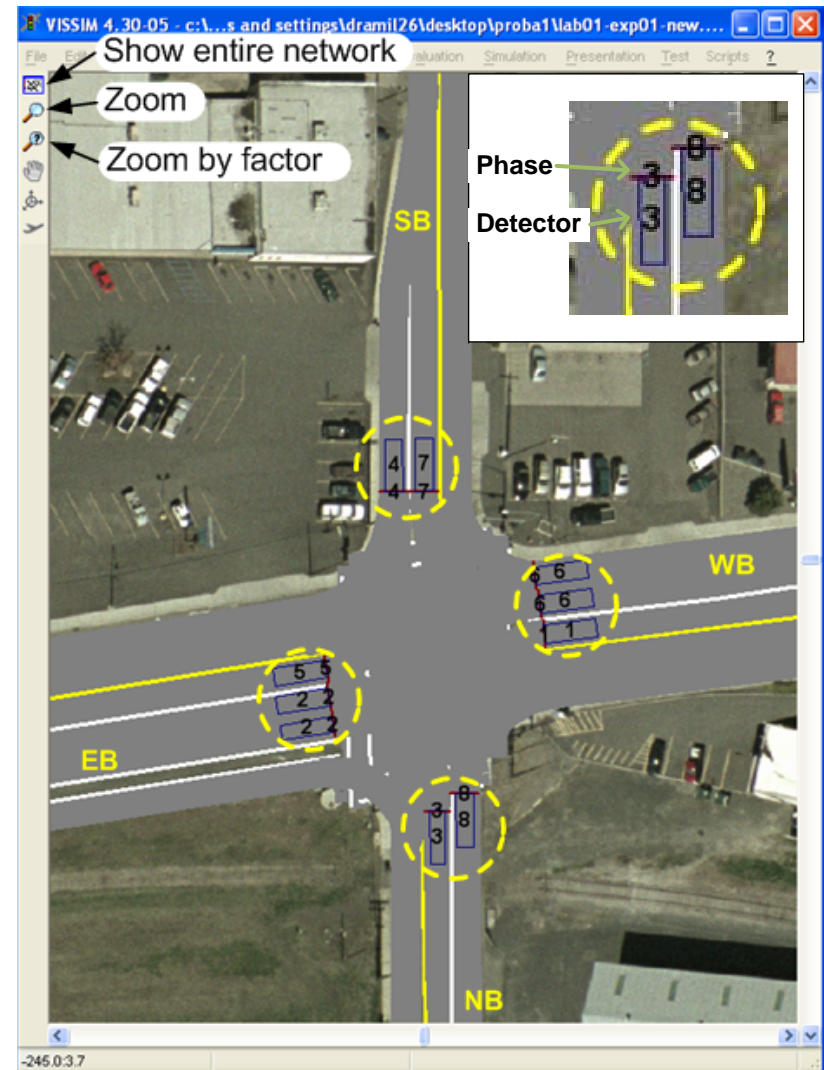

Figure 9 VISSIM window showing phase and detector numbers
In this experiment you will learn about the information that is provided in the VISSIM simulation window (see Figure 9).
- Use the three zoom tools located in the upper left portion of the VISSIM window to see how changing the scale or zoom factor improves or degrades your ability to observe the traffic flow and the signal timing processes. See Figure 9.